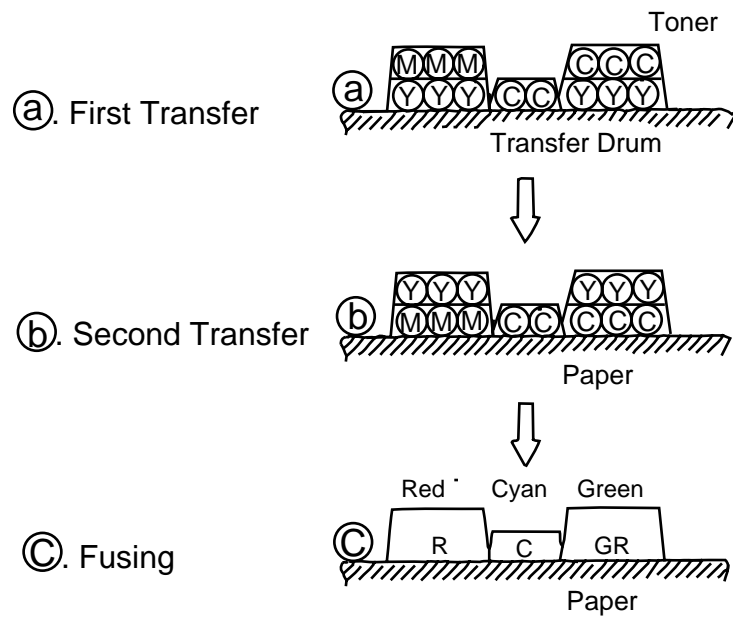

Fig.4-4
- (b) The toner image developed using the primary colors is transferred to the transfer drum for the printed color combination as shown in Fig.4-4 (a).
- (c) The toner image formed on the transfer drum is transferred to the transported paper as shown in Fig.4-4 (b).
- (d) The toner on the paper is fused by the thermal fixing unit to fix the toner image onto the paper as shown in Fig.4-4 (c).